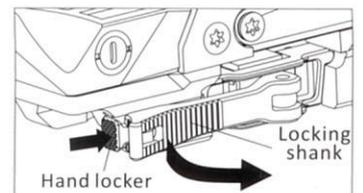

Fig 4
2. Designed with our patented nonlinear cam clamping system, no tools are required for attaching to a rail. Push locking button, lift up handle to loosen the locking bar. To mount sight on rail, push the handle down, locking button will automatically engage. The installation is complete. (see fig 4)